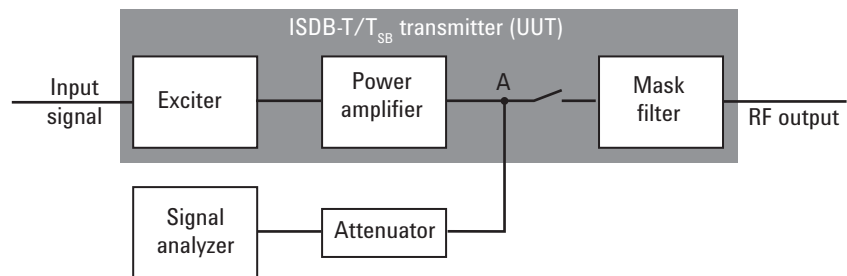

Figure 32. Diagram for spectrum mask measurement on ISDB-T/ $T_{SB}$  transmitter with mask filter
**Method 1:** Figure 32 shows a diagram of the spectrum mask measurement when the ISDB-T/ $T_{SB}$  transmitter has an output filter.
2. Measure the signal transmitted at point A as shown in Figure 32.
3. Apply amplitude correction on the spectrum value measured in (2) using the filter’s response from (1).